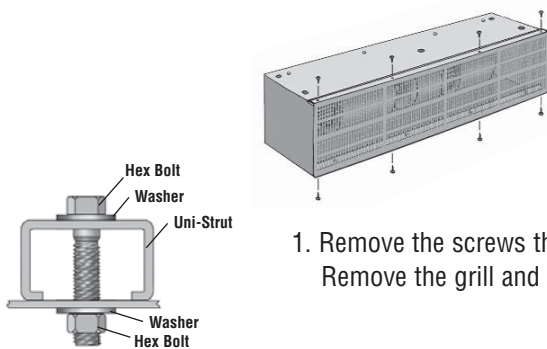

Fig. 24
1. Remove the screws that hold the intake screen in place. Remove the grill and applicable filter(s). (See Fig. 24)